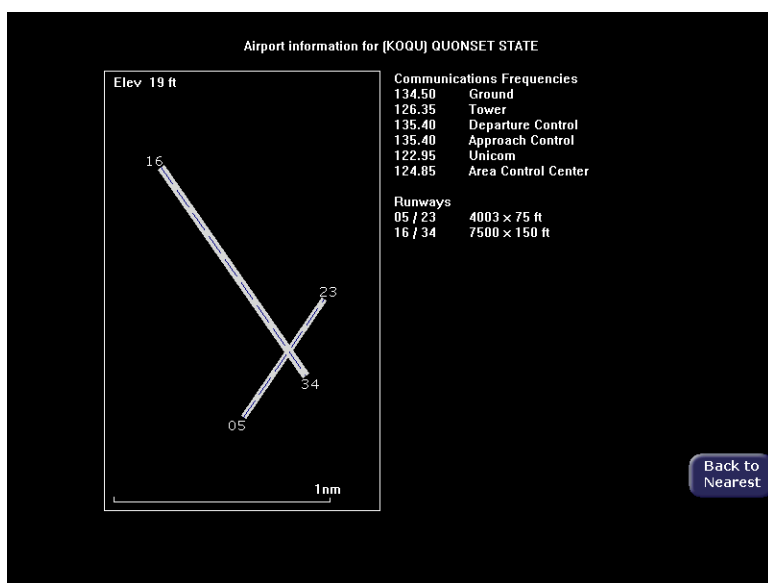

Figure 8.2 Airport Information Page
- 3) **Airport Info**—Provides quick access to airport information for the airport highlighted. *Airport Info* only appears when viewing the Airports Nearest to Position and Airports Nearest to Destination. Airport Info displays a page similar to Figure 8.2.
- 5) **FILTER**—Press to see all airport types (SHOW ALL) or only the airport types as defined on the Airport Filter page (ON) (see Section 9.2, "Airport Filter Setup Page" on page 81). *Filter* is only visible on the Nearest Airport pages.